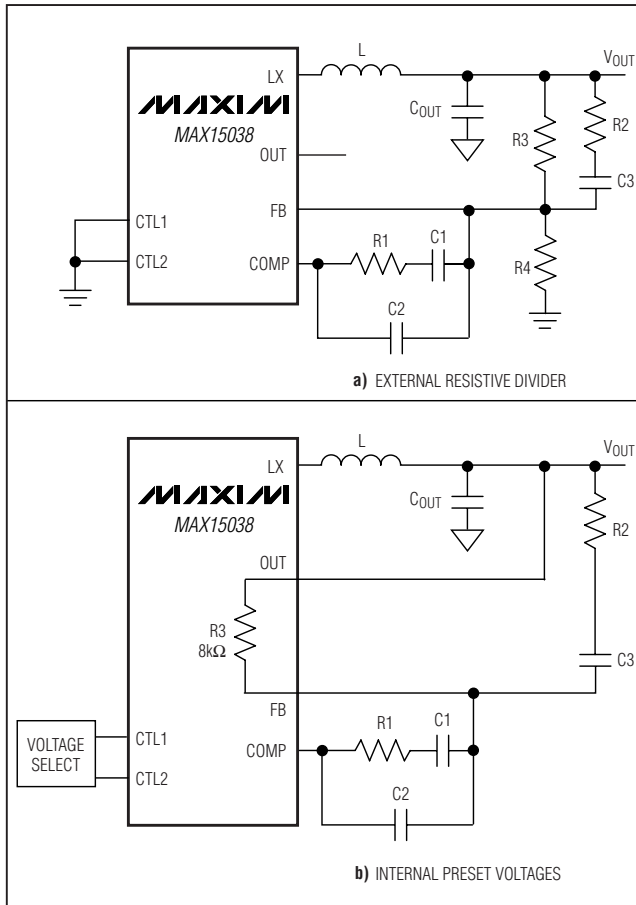

Figure 3. Type III Compensation Network
amplifier must compensate for this gain drop and phase shift to achieve a stable high-bandwidth closed-loop system. Therefore, use type III compensation as shown in Figures 3 and 4. Type III compensation possesses three poles and two zeros with the first pole, f_{P1_EA} , located at zero frequency (DC). Locations of other poles and zeros of the type III compensation are given by: